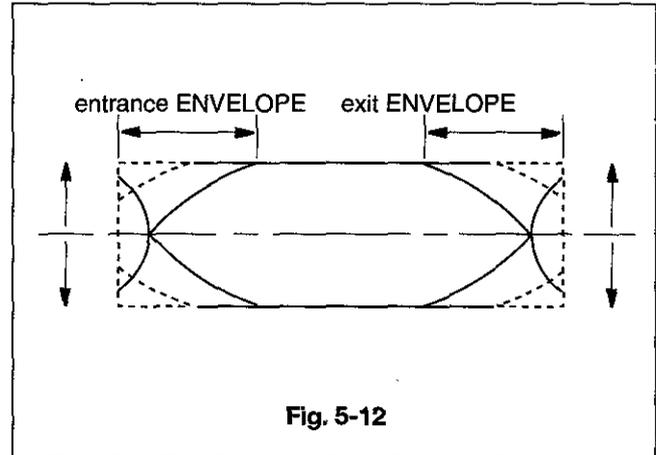

Fig. 5-12
B. Switch the REVIEW MODE to the PLAY MODE. Make sure the state within 3 seconds as shown in Fig. 5-12. If it does not rise within 3 seconds after servo locking adjust as follows.
A. Record video signal (color bar or monoscope on T-120 Tape) and make sure the playback envelope output meets the specification as shown in Fig. 5-12.